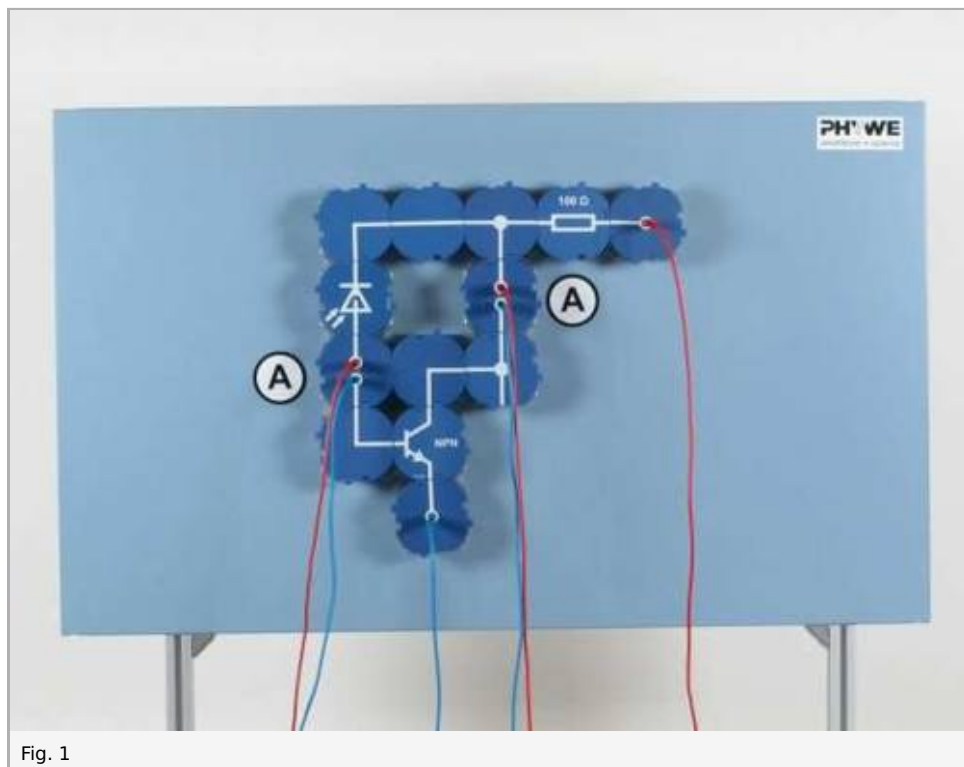

Fig. 1
- Set up the experiment as shown in Fig. 1 with transistor  $T_1$ ; select the 10 IJA measurement range for the measuring instrument in the base circuit